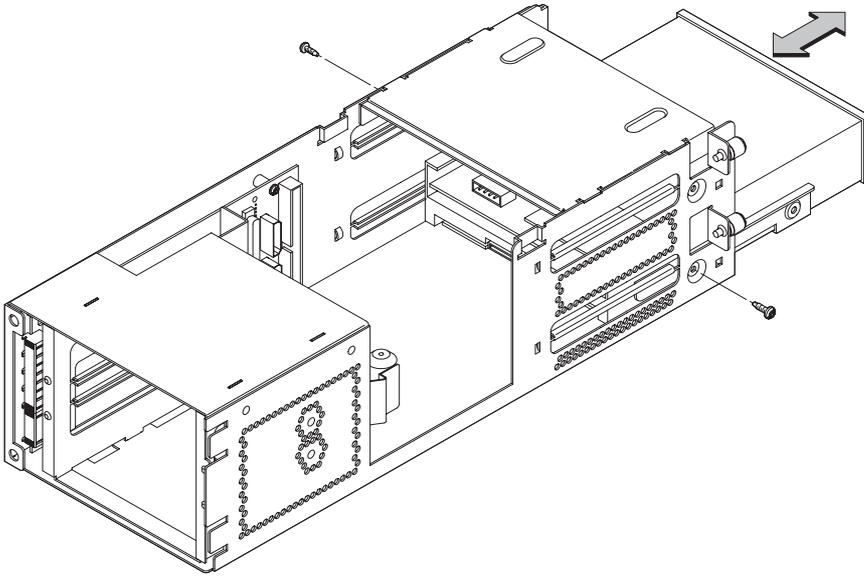

Figure 5-47. Removing Drive Screws
13. Unscrew the two screws holding the drive in the storage drawer, and slide the drive out of the drawer. See Figure 5-47.